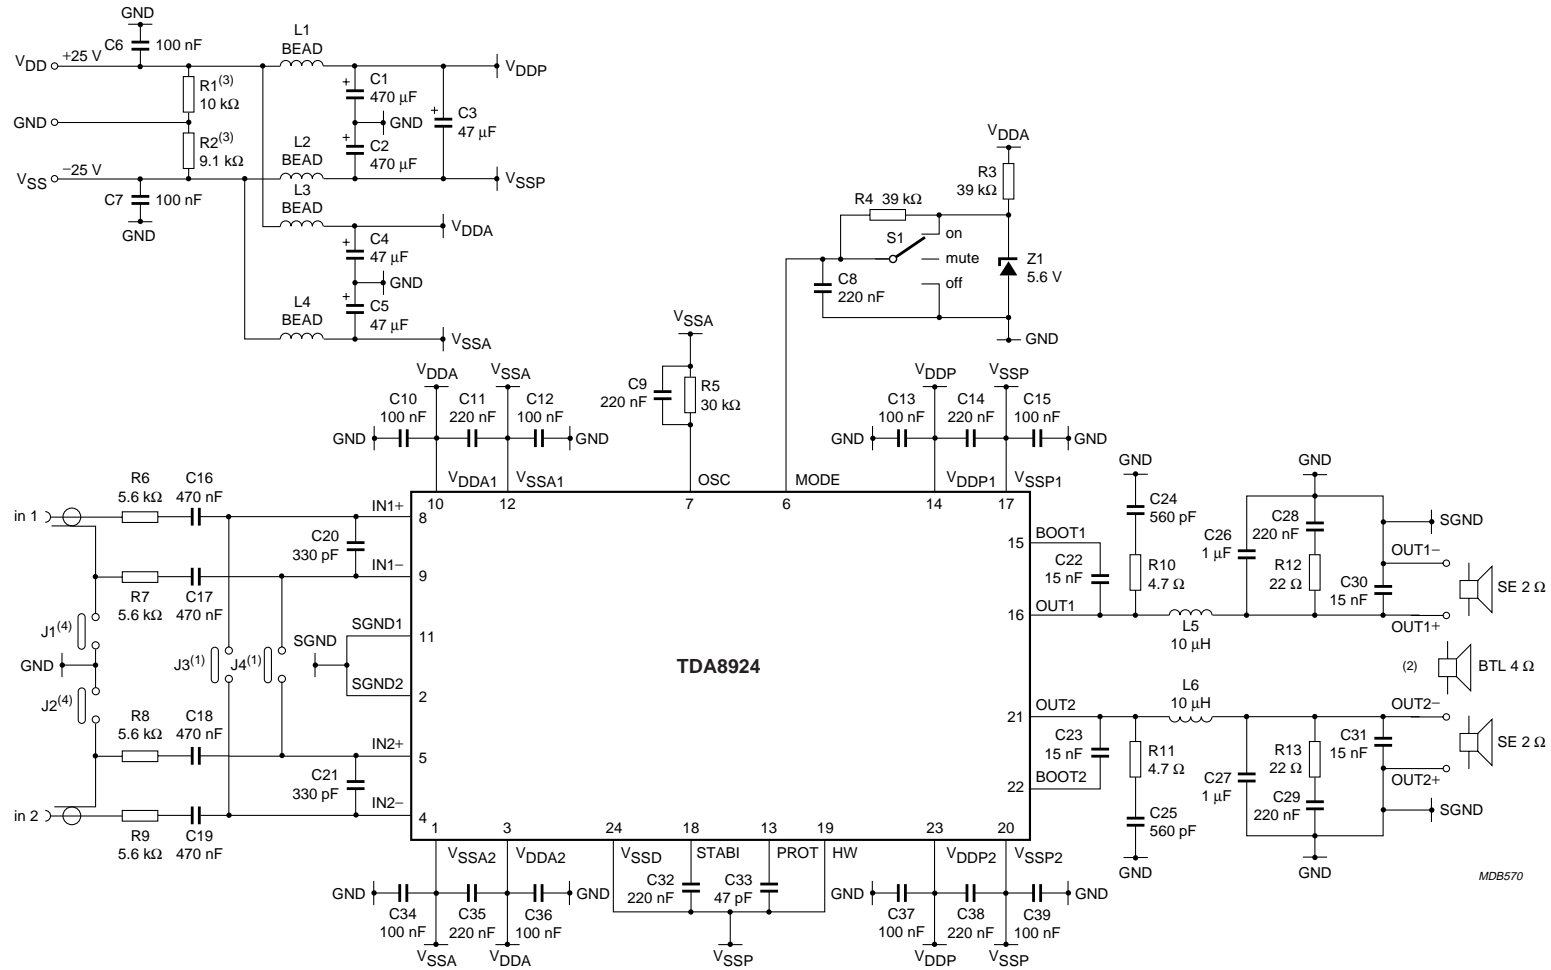

Fig.9 Single-chip class-D audio amplifier application diagram.
The reference design for the single-chip class-D audio amplifier using the TDA8924 is illustrated in Fig.9. The Printed-Circuit Board (PCB) layout is shown in Fig.10. The Bill Of Materials (BOM) is given in Table 1.
**16.11 Reference design: bill of materials****Table 1** Single-chip class-D audio amplifier printed-circuit board (version 4; 01-2002) for TDA8924TH (see Figs 9 and 10)